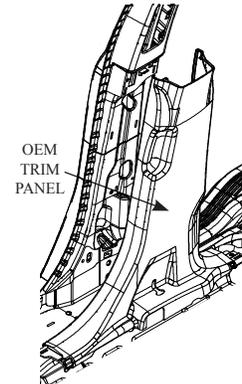

FIG. 7A
C. Orientate the B-Pillar bracket so the locating tab fits into the Oval Pocket on the vehicle B-Pillar and the formed locating flanges wrap around the vehicle B-Pillar. Push over and up on the Bracket until the locating tab is at the top of the pocket and the flanges are tight against the vehicle B-Pillar edge. Insuring that the bracket is located correctly, using the supplied Self-Drilling screws (3X162) secure the B-Pillar bracket to the vehicle B-Pillar. (See Fig. 7A & 7B)